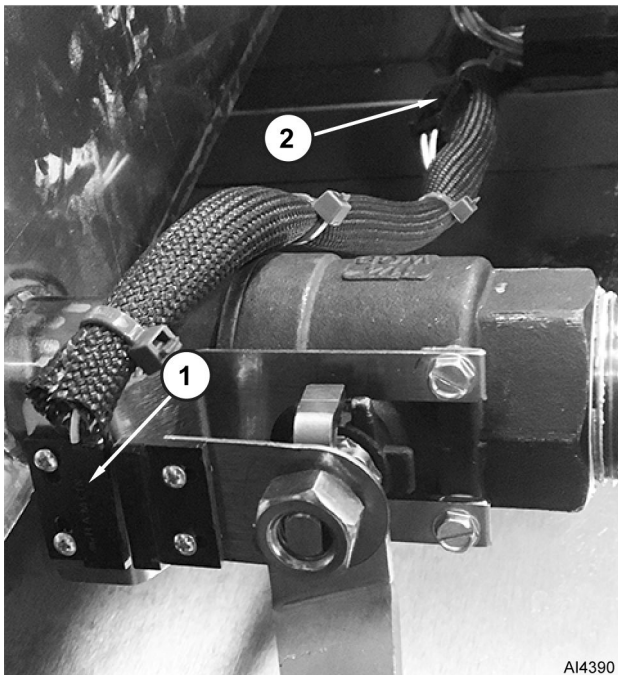

Fig. 13
3. Disconnect position sensor connector (2, Fig. 13) from harness.
5. Remove two screws, nuts, and position sensor (1).